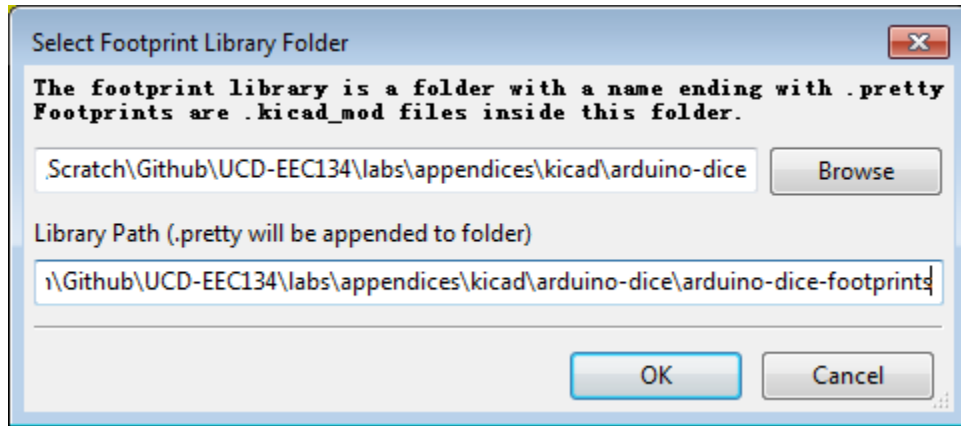
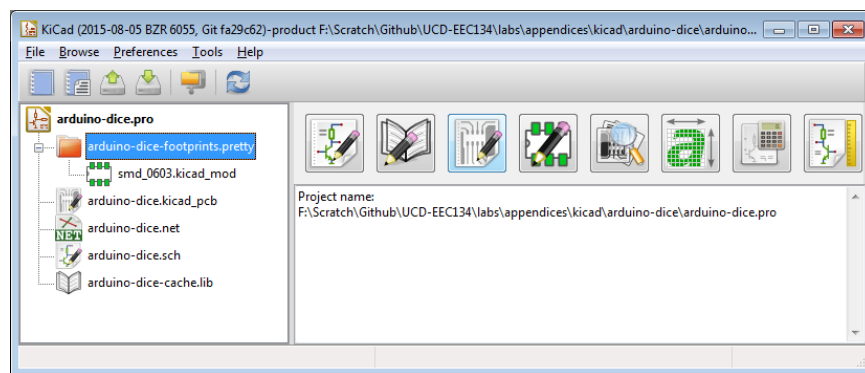

Figure 15: The “Select Footprint Library Folder” dialog box.
Figure 16: The new footprint library is now visible in the project tree.
10. We wish to create a new library to contain our newly created footprint. To do this, click the “Create new library and save current module” icon. Set the location and name of the library and click “OK”. The “Library Path” field should contain the full path to your desired library location. In this example, we will create a footprint library with the name “arduino-dice-footprints” (KiCad will automatically add the “.pretty” suffix) under the project folder “... \arduino-dice”. Fig. 15 shows the proper settings. At this point, a new folder named “arduino-dice-footprints.pretty” should appear in the project tree in the KiCad main window (Fig. 16). Click on the “+” sign will expand the library and show all the footprints in this library; in this case, we only have the “smd_0603” footprint.